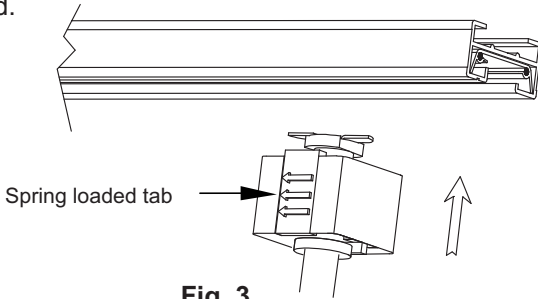

Fig. 3
3. Insert adapter into the track slot (**Fig. 3**), compressing the spring loaded tab downward.